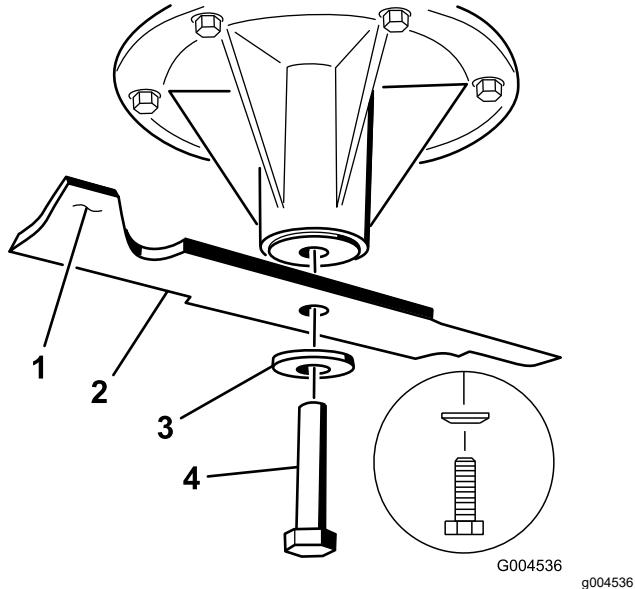

Figure 77
2. Install the blade onto the spindle shaft (Figure 77).
3. Install the curved washer and blade bolt (Figure 77).